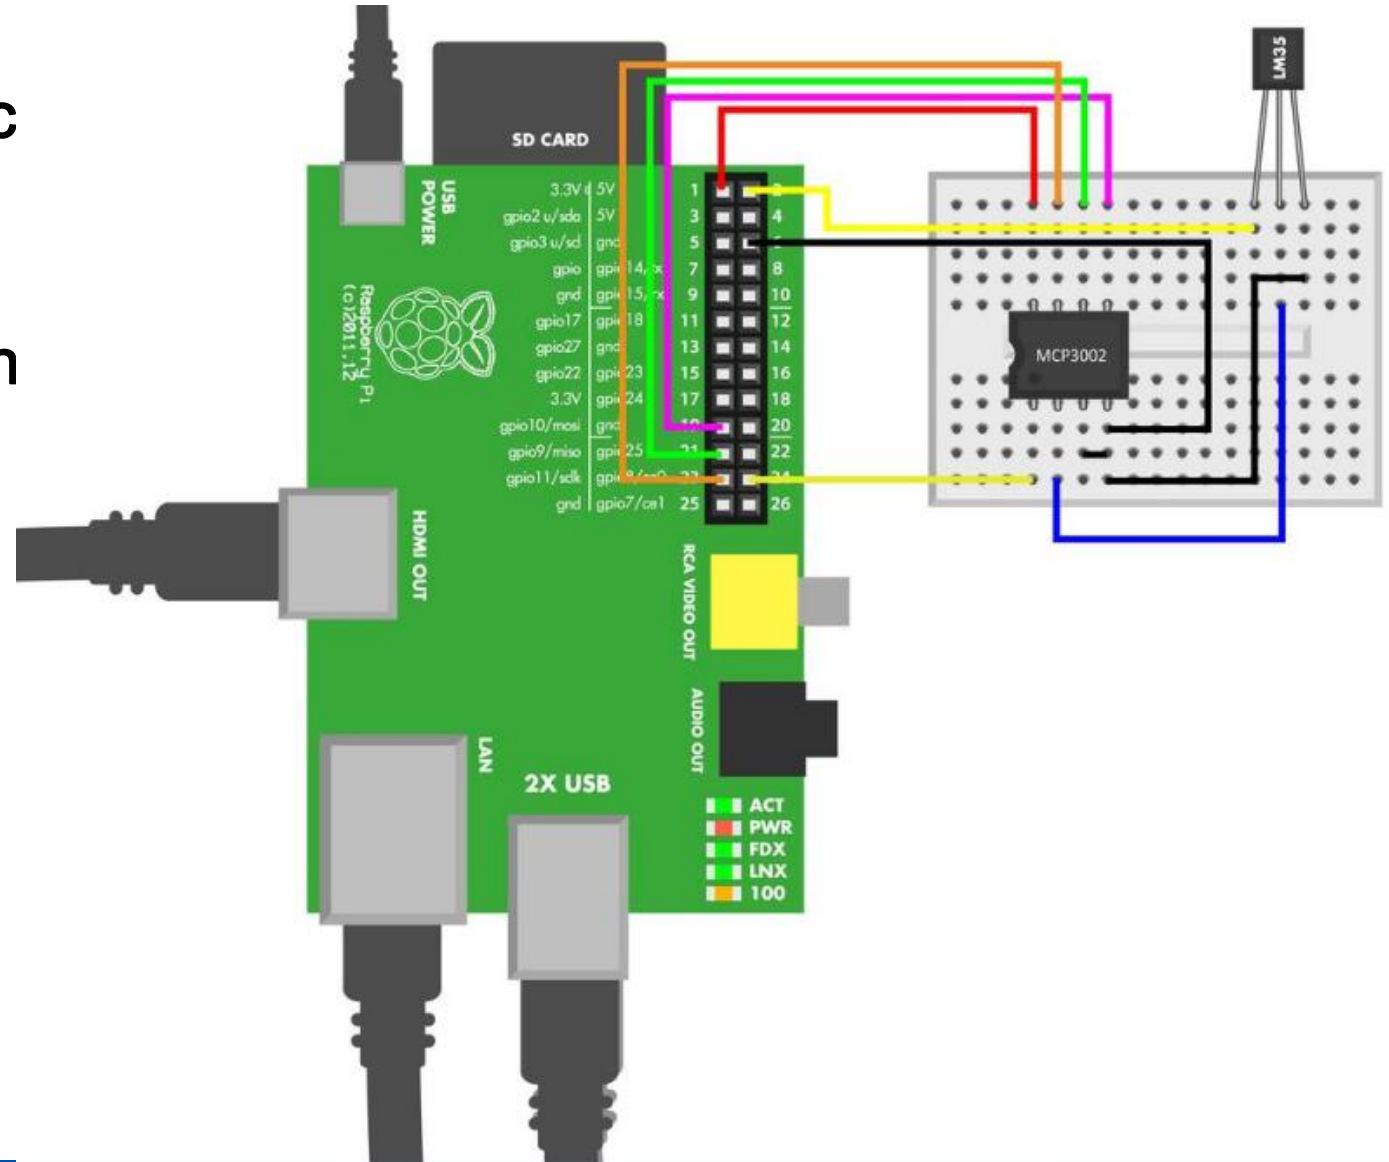

Figure 12-3. Raspberry Pi connections for the LM35
- Figure 12-3 shows the connection diagram for the Raspberry Pi.